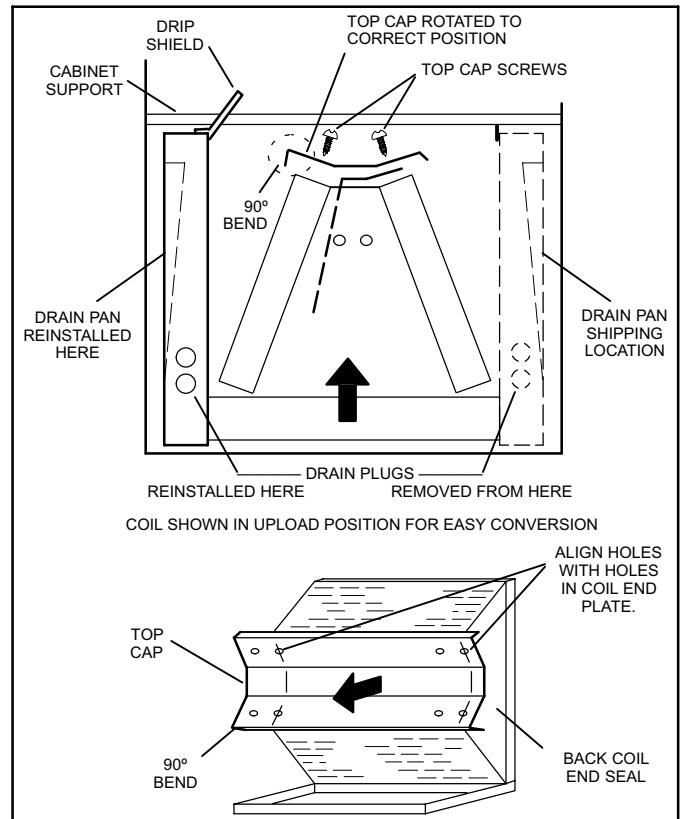

Figure 4. Field Modification for Left-Hand Discharge
- Step 5. Remove screws from top cap. Remove horizontal drip shield screw located in the center of the back coil end seal as illustrated in figure 4 on page 5.
- Step 8. Rotate top cap 180° front-to-back and align with unused screw holes. Holes must align with front and back coil end plates. The top cap has a 45° bend on one side and a 90° bend on the other. **The 90° bend must be on the same side as the horizontal drain pan** as illustrated in figure 4 on page 5.
- Step 9. From the up-flow position, flip cabinet 90° to the left and set into place. Replace blower assembly. Secure coil in place by bending down the tab on the cabinet support rail as illustrated in figures 4 and 5.